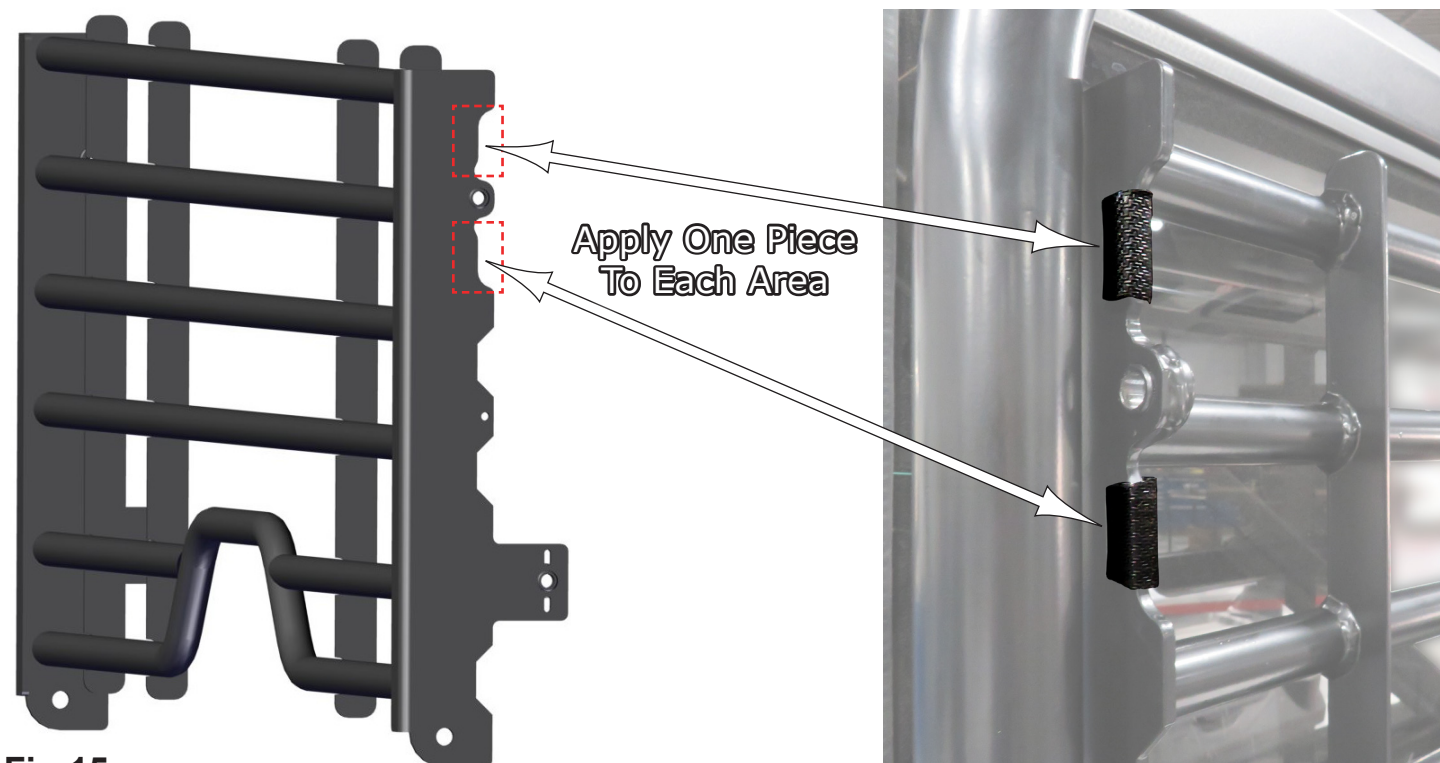

Fig.15
15. The next thing to do is to apply two (2) pieces of the **Rubber Edge Seal** to the side rails of the Drop Shelf. Just measure or estimate the length to cut and slip it onto the side rails as shown in **Fig.15**. These will dampen the sound when lowering the shelf onto the Stopping Brackets. Repeat for the opposite side rail.